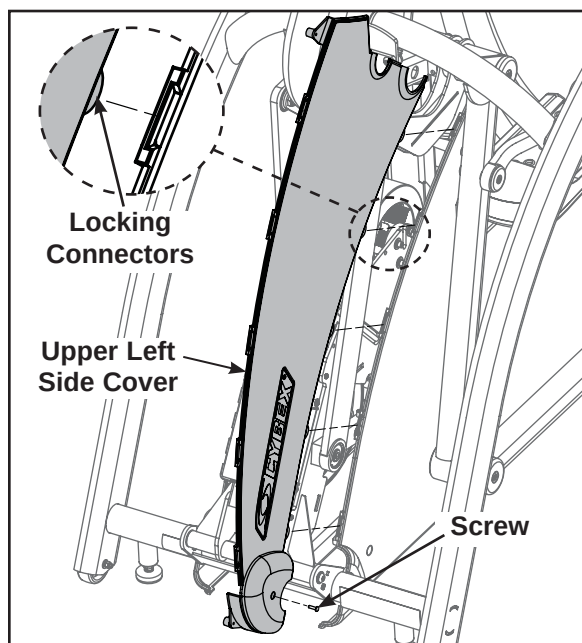

Figure 7
- A. Using a Phillips screwdriver, remove the screw securing each of the upper side covers. See Figure 7.